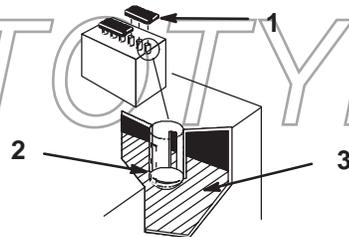

Figure 23
2. Open covers to see into the cells. The electrolyte must be up to the lower part of the tube (Fig. 23). Do not allow the electrolyte to get below the plates. (Fig. 23).
2. Lift off the filler caps (Fig. 23).
3. Slowly pour distilled water into each battery cell until the level is up to the lower part of the tube (Fig. 23).